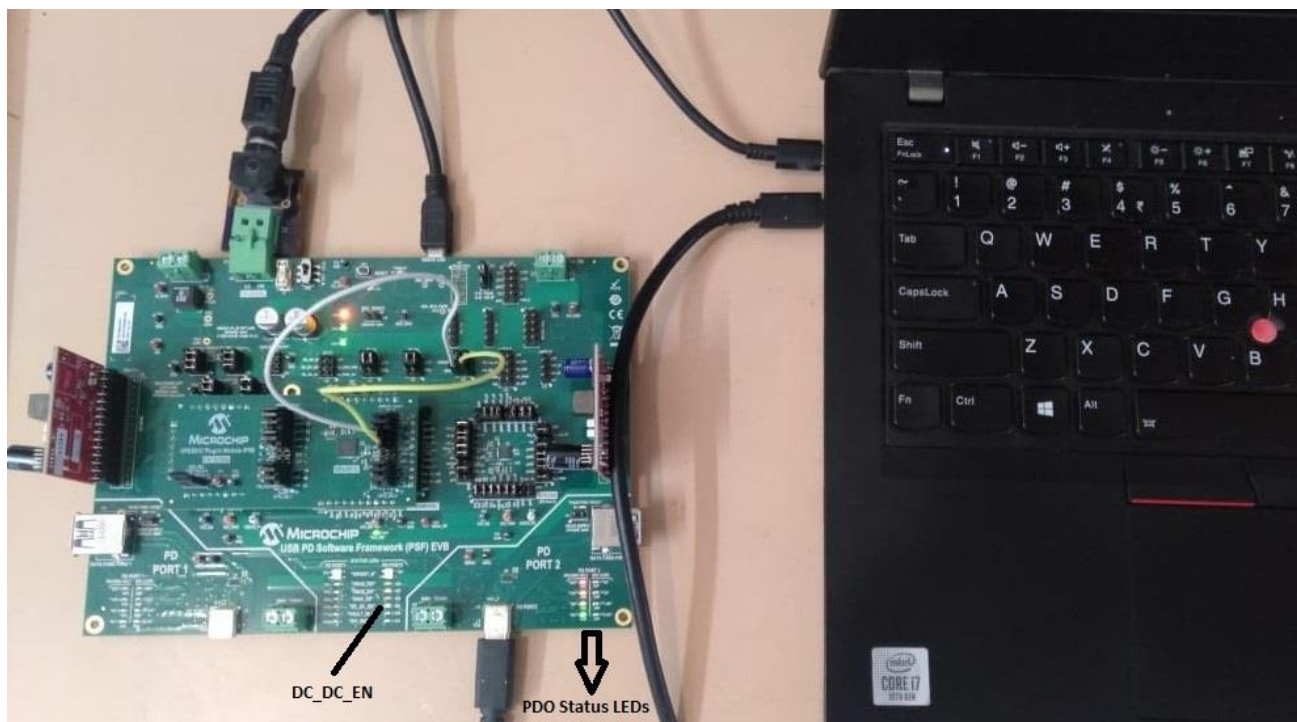

Figure 7.3 PDO Status LEDs when attached as Sink
3. Once an explicit power contract negotiation is in place, the PSF gets enough power for charging. PDO status LEDs will turn ON indicating the negotiated voltage as shown in Figure 7.3.